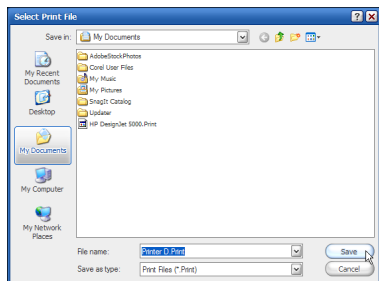

Figure 5—Print to File
2. Click **Configure**. This opens the **Select Print File** dialog (see Figure 5). If the **Printer Port** dialog does not display **Print to File**, then your printer does not support this option.